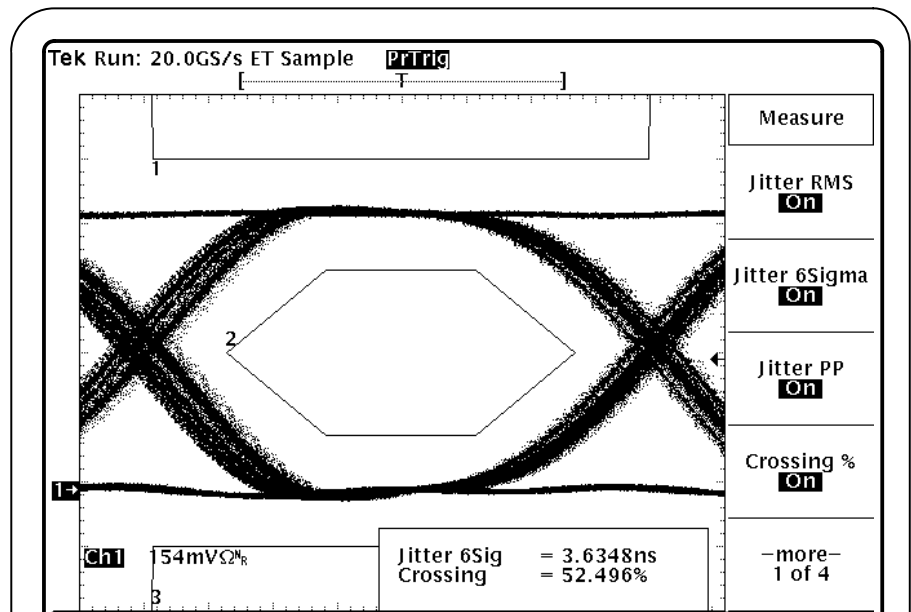

Figure 9: Measure menu, page 1
5. Press Measure (main) and set all the measurements to “On.” Figures 9, 10, 11, and 12 show all the measurements selected.